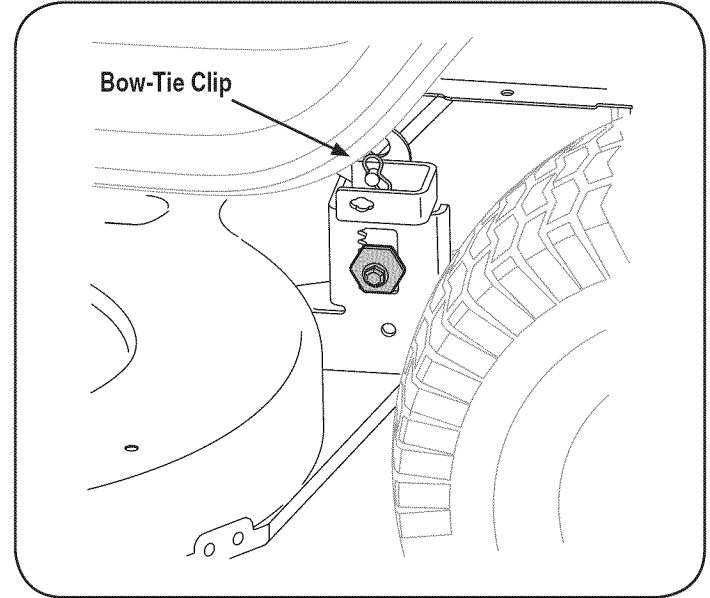

Figure 19
5. Looking at the cutting deck from the left side of the tractor, locate the bow-tie pin that secures the deck support rod on the rear left side of the deck. See Figure 19. Remove the bow-tie pin that secures the deck support rod, and carefully remove the deck support from the deck lift arm.